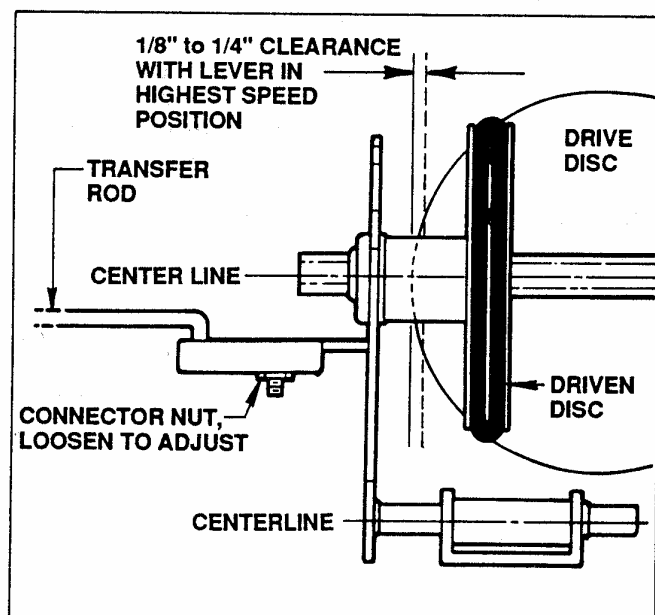

FIGURE 5
**STEP 9:** If properly adjusted, the edge of the driven disc will be 1/8" to 1/4" in from outer edge of the drive disc. See Figure 5.